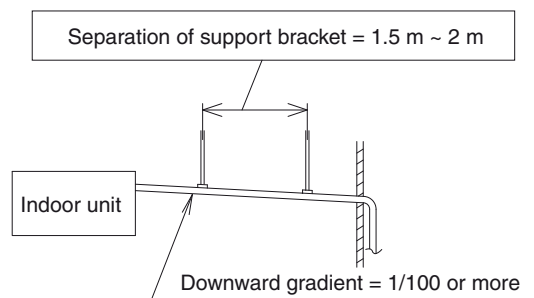

Fig. 3-8
- Make sure the drain pipe has a downward gradient (1/100 or more; downward from drain port connection). (Fig. 3-8)